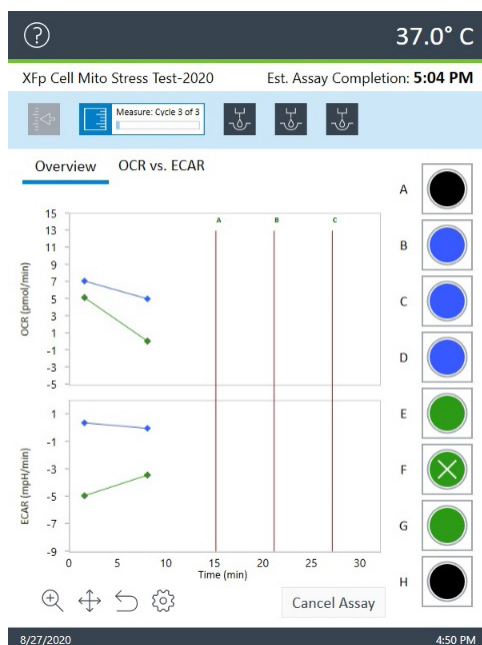

Figure 8. Overview tab.
- 6 Click either the **Overview** or **OCR vs. ECAR** tab to toggle between the views during the assay. See **Figure 8**. Overview and OCR versus ECAR are the two run-time views available as data is acquired by the XFp Analyzer.
The **Overview** tab displays both OCR and ECAR as a function of time. Red vertical lines indicate the injections and are labeled by injection port letter. See **Figure 8**.